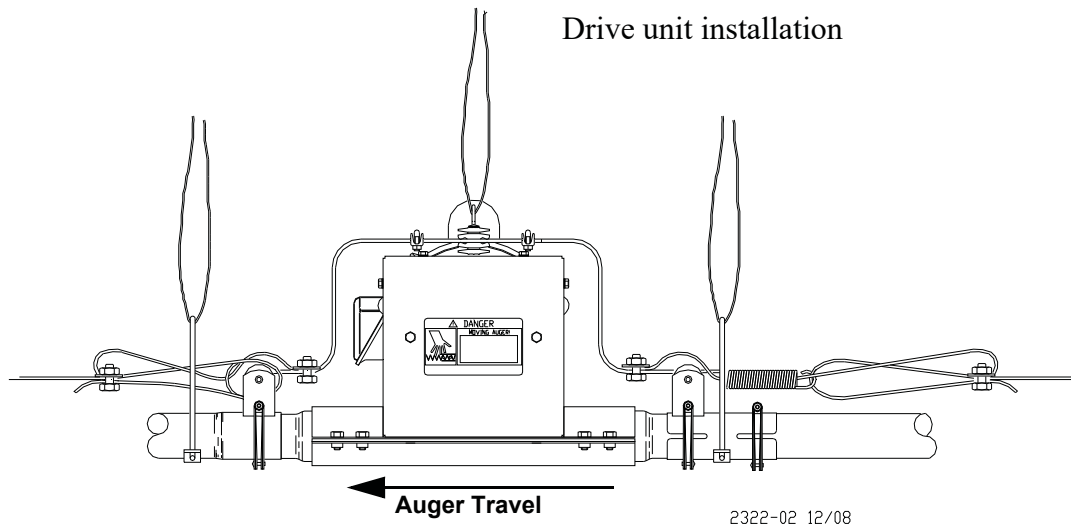

Figure 45. Drive unit installation
5. Remove the power unit from the base connector weldment and install the base connector weldment as shown, see **Figure 45**.
6. Loosen the four (4) bolts on the incoming side of the power unit base.
Slide the belled end of the tube adapter into the incoming side of the power unit base. Tighten the four (4) bolts to secure the tube adapter to the power unit base, see **Figure 45**.
8. Insert the belled end of the next tube section over the tube adapter, as shown in **Figure 45**. Secure using a clamp/anti-roost bracket.